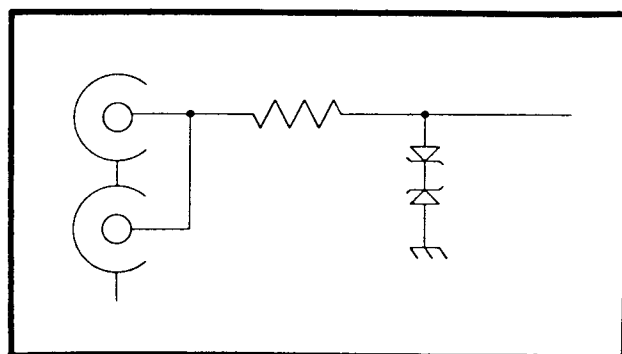
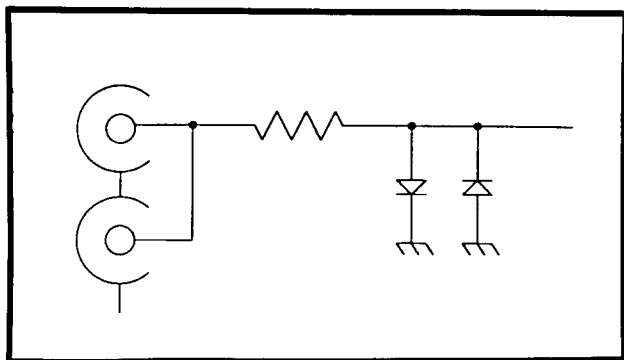

Figure 2
Figure 1
- A7CR118, A7CR119, A7CR125, A7CR126, A7CR218, A7CR219, A7CR225 and A7CR226 are removed. In their place, two zener diodes are teepee'd into the circuit, in a back-to-back configuration, on each of the four input lines. Figure 1 (below) illustrates the circuit before the changes. Figure 2 illustrates the circuit after the changes. The new diodes are P/N 152-0688-00.